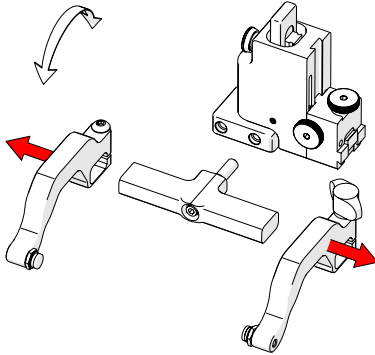

Fig. 121 - Remove probe holder arms
3. Loosen the arm clamp screw and probe holder arm adjustment knob allowing the removal of the probe holder arms (*Fig. 121*).